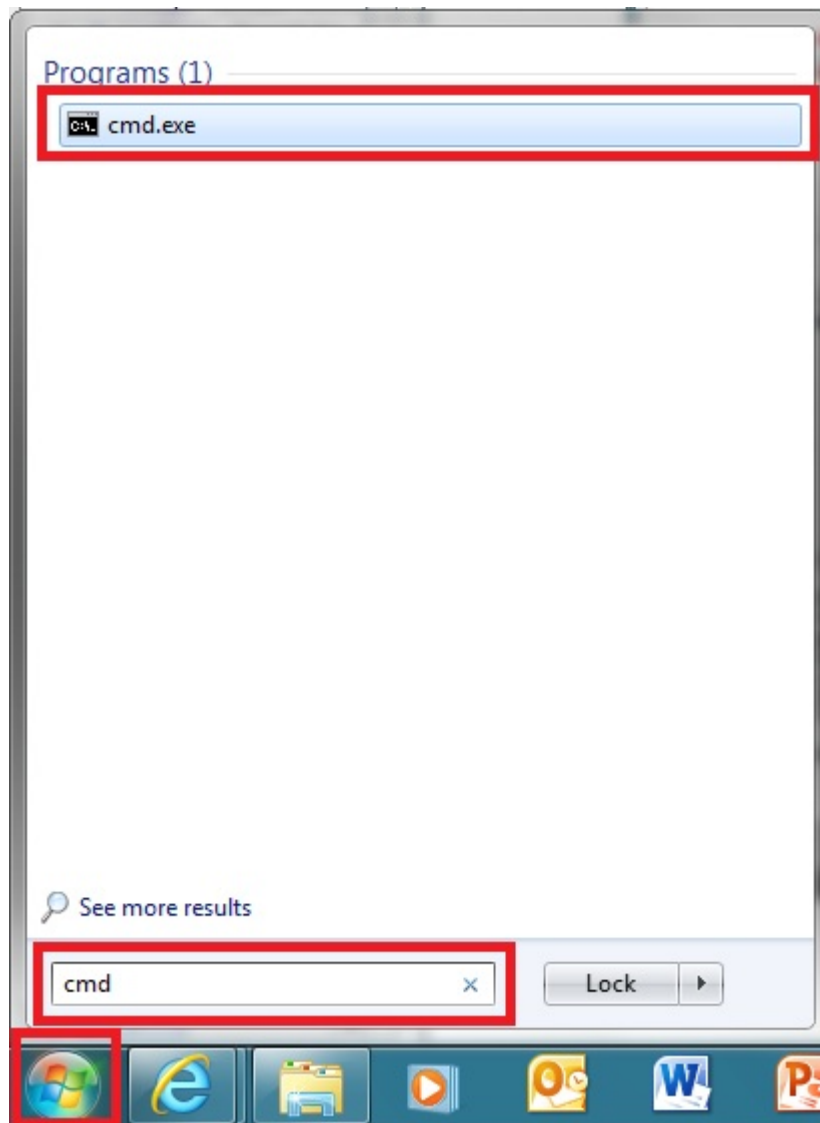

Figure 4-29. Opening a Command Line Window
- Once Cmake has completed generating the make file, click the Windows button to open the Start bar. Open a command line window by typing "cmd" into the Window's search bar inside the Windows Start button, as shown in Figure 4-29.